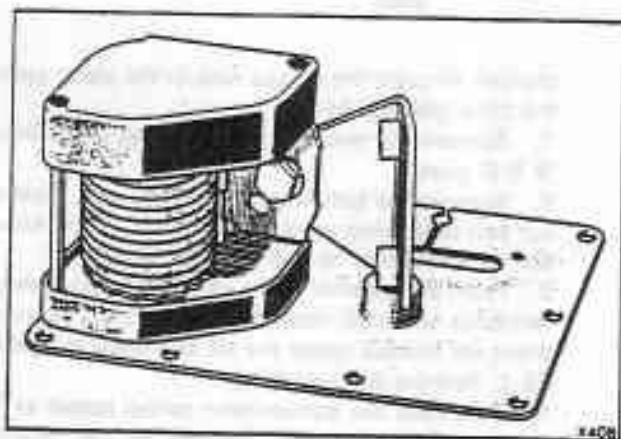

Fig. S6-3 Correct location of lower bracket on seat belt reel
To check the location of the lower bracket proceed as follows (see fig. S6-3).
- c. Position the reel onto the cover plate as shown in figure S6-3. Ensure that the edge of the lower bracket rests on the boss.